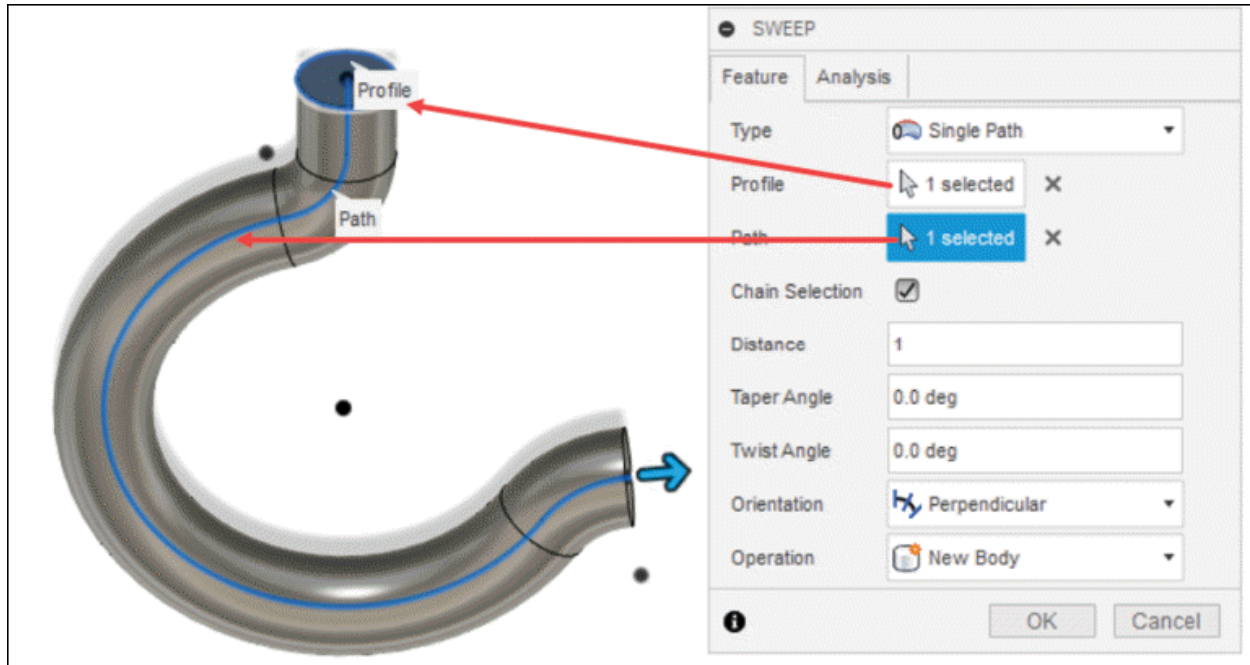

Figure-98. Creating sweep feature
- Select profile, path, and other parameters as shown in Figure-98. Click on the **OK** button from the dialog box to create the feature.